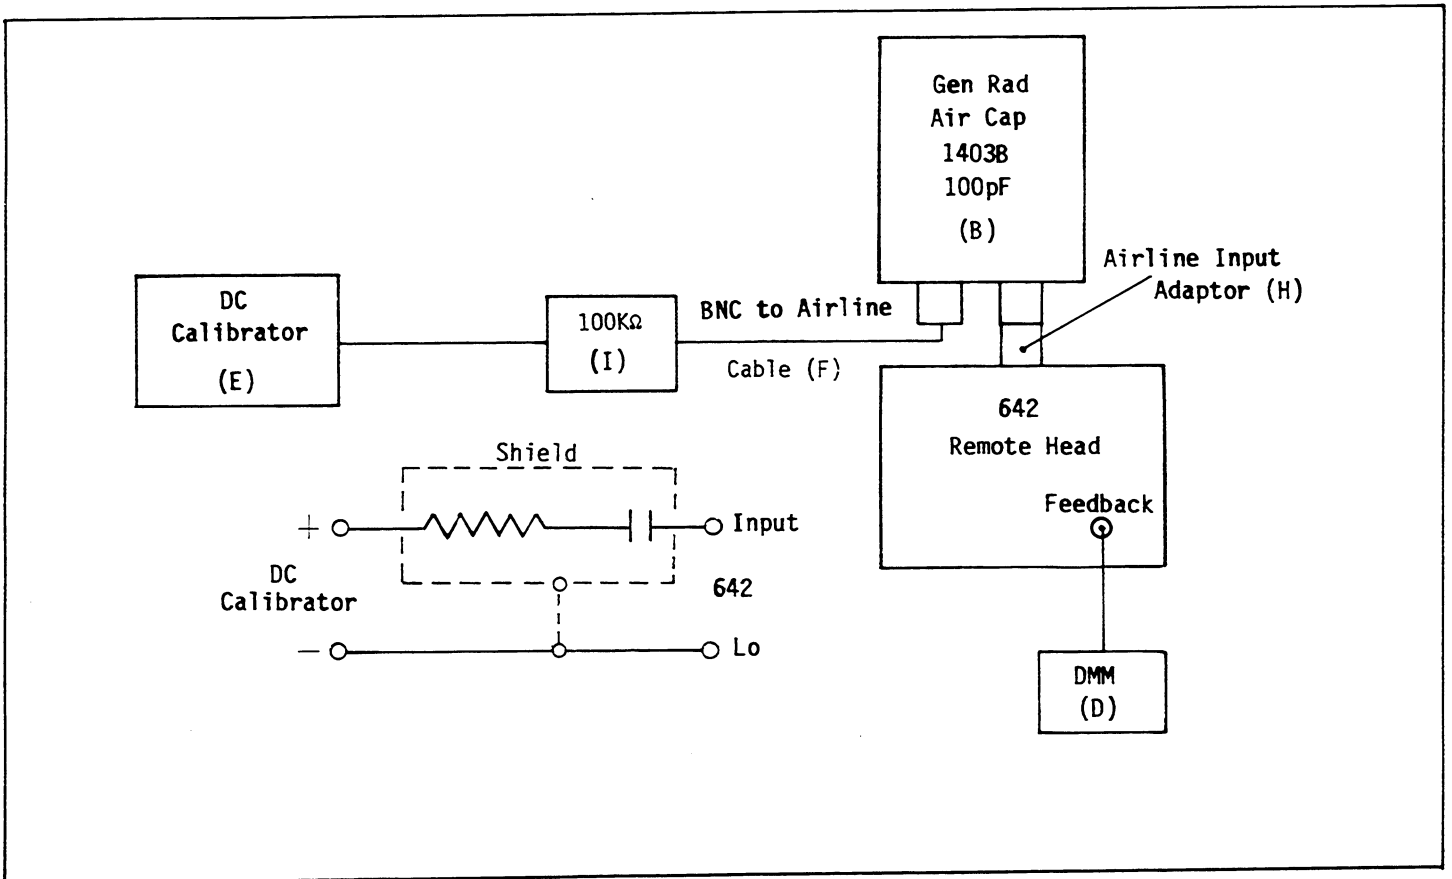

FIGURE 6-3. Charge Calibration Circuit
b. Set up the circuit shown in Figure 6-3, and set the DC Calibrator (E) to 0V.
c. While monitoring the FEEDBACK output with the DMM (D), release the ZERO CHECK and step the DC Calibrator to +1.0000V.